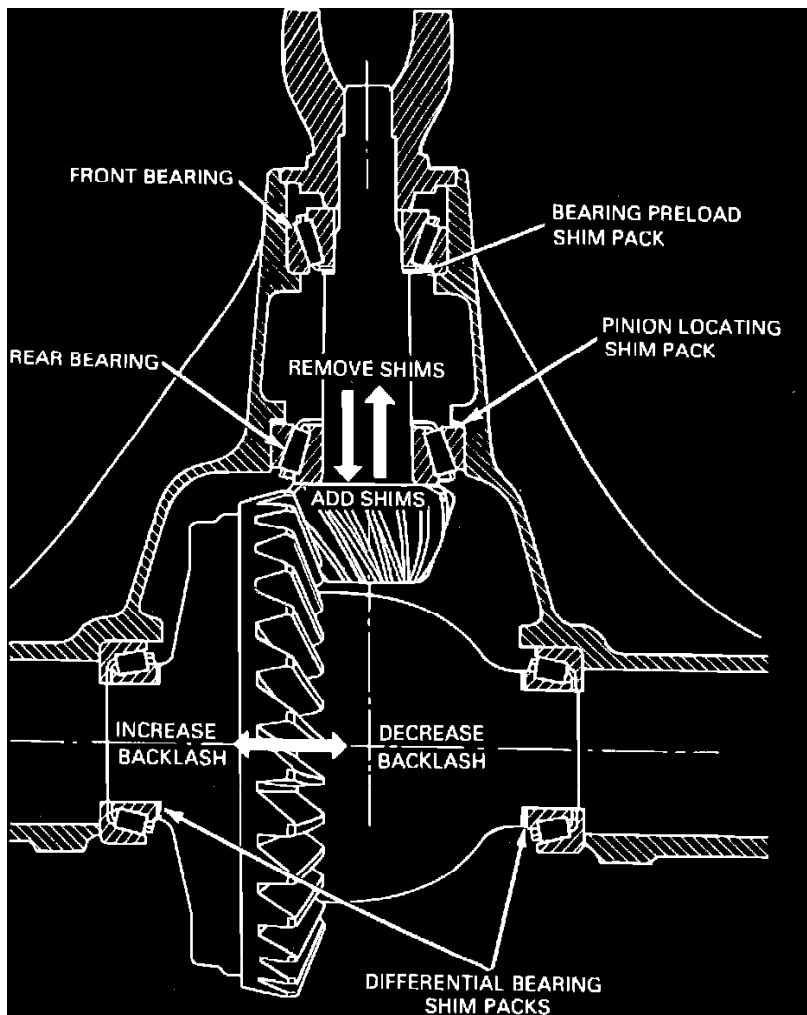

Fig. 4 Shim replacement for preload adjustment
4. Rotate pinion using a suitable torque wrench. Rotating torque should be 20---40 inch lbs. To increase preload, remove shims from drive pinion. To decrease preload, add shims to pinion, **Fig. 4**.